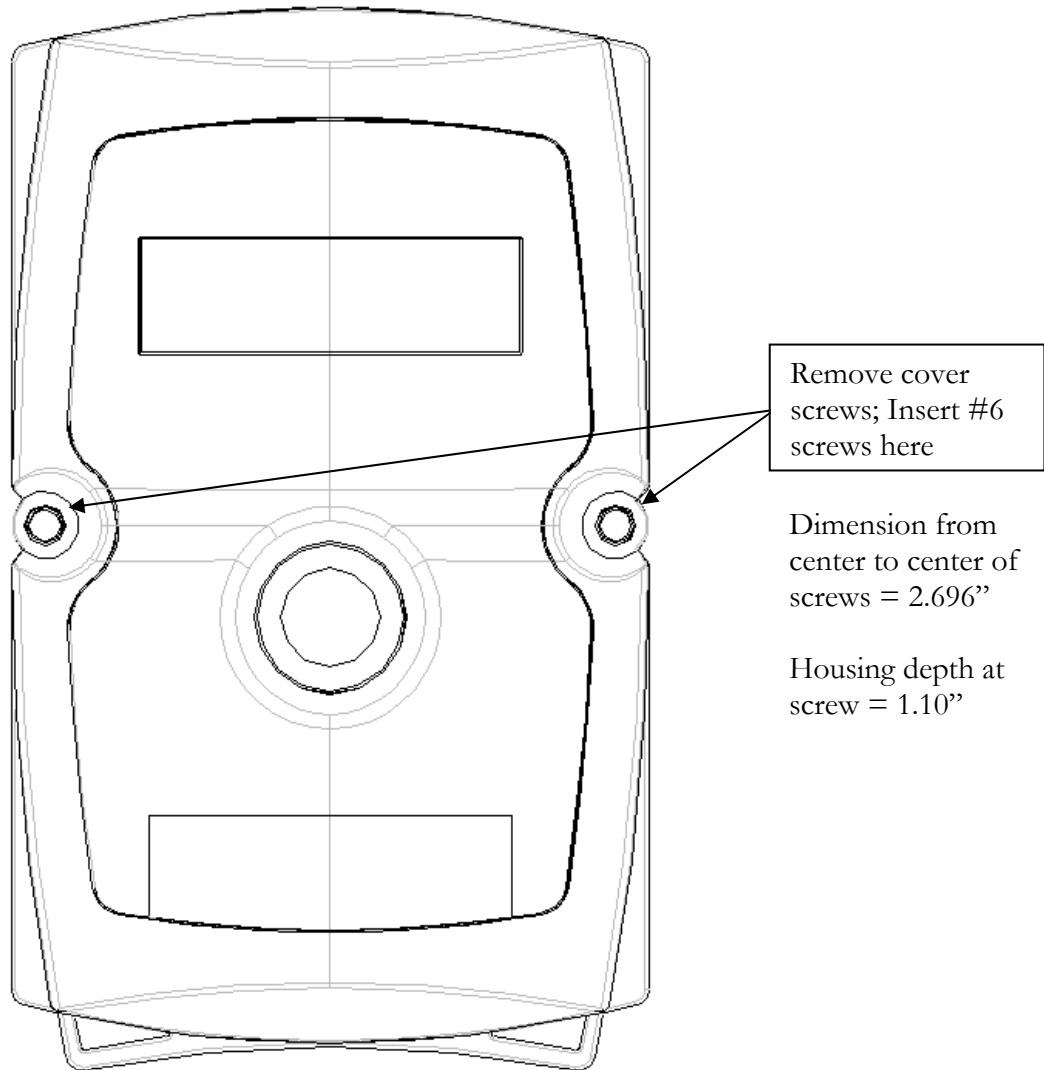

Figure 4: Screw mounting template (drawing is actual size).
The WhereCall III may be directly mounted to a surface such as a wall, post, or desk. For correct screw placement, use the Screw Mounting Template provided in this User's Guide (see Figure 4).
3. Place a pencil, pen or metal scribe on the 'Insert screw here' points as shown in Fig. 4, puncture the template and mark the mounting surface.